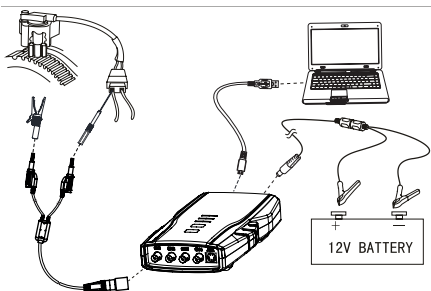

Fig. 20: Equipment connection
1. Connect equipment according to Fig.20, switch on power supply.